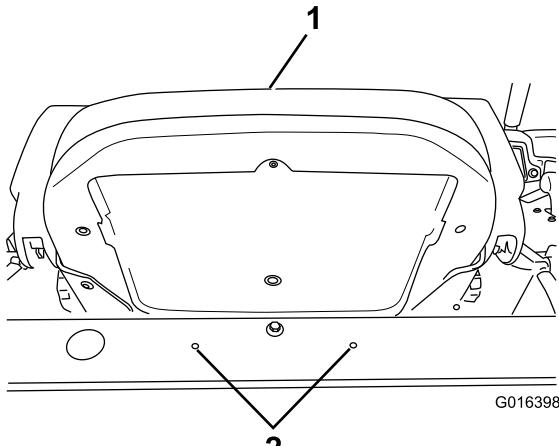

Figure 11
5. Use a drill to enlarge 2 existing holes in the rear cross member (located behind the seat) to 8.5 mm diameter (Figure 11).